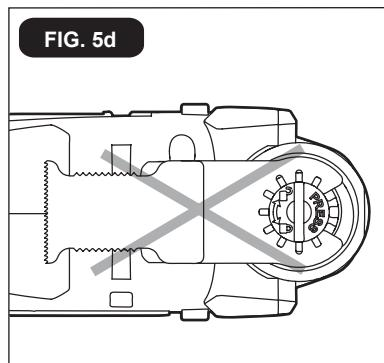

FIG. 5d
**⚠️ WARNING** A blade should never be attached so that it is facing backwards, as operation in this position may cause serious injury (FIG.5d).